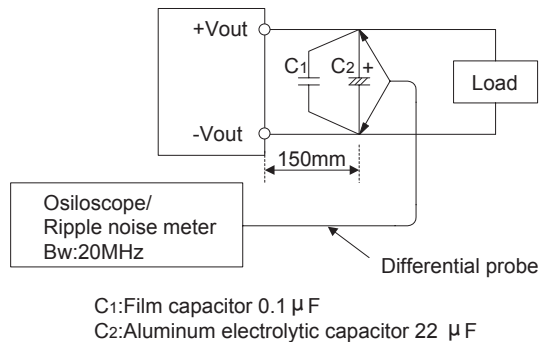

Fig.2.1 Measuring method of Ripple and Noise
■ Output ripple noise may be influenced by measurement environment, measuring method fig 2.1 is recommended.